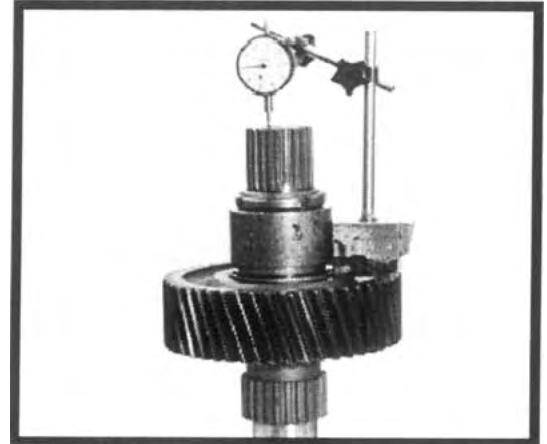

Figure 6.4
10. Install a dial indicator as depicted in Figure 6.4. Lift upward on the gear assembly and note the gear end float on the dial indicator. If the end float is not within specification (.000 to .002 inch), it will be necessary to disassemble the shaft by performing Steps 2 and 3 under "INPUT SHAFT DISASSEMBLY" in Section 4. Measure the thickness of the original spacer ring and select a new ring to provide end float within specification. See item 12 in Section P.2 in the parts manual for a list of available spacer rings.